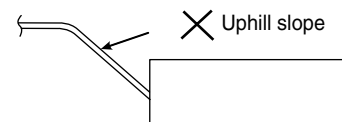

Fig. 3-52
- Do not install the pipe with an upward gradient from the connection port. This will cause the drain water to flow backward and leak when the unit is not operating. (Fig. 3-52)